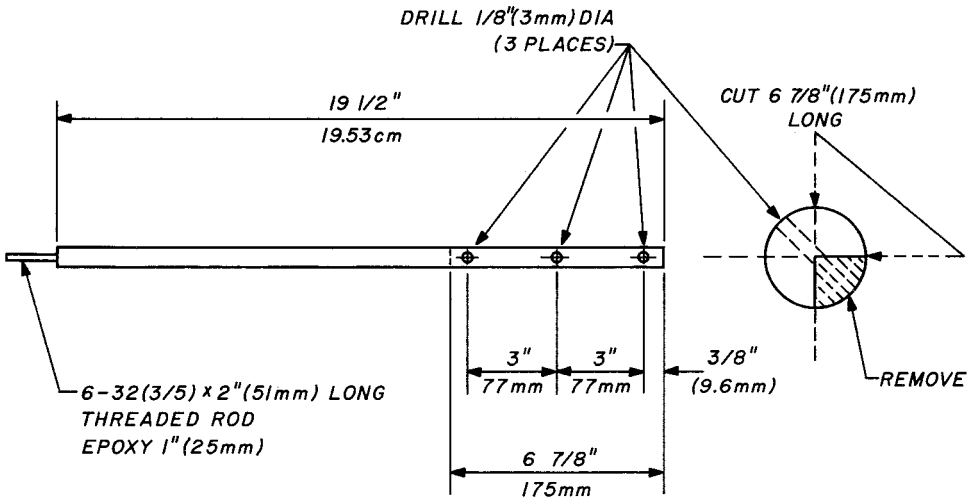

Figure 11-12.
time (with three coats of white *Hobbyoxy* on them) without significant warping or bending. I recommend the $\frac{1}{2}$ -inch (12.5-mm) diameter dowels for standoff supports. Dimensions for the 13-inch (332-mm) long standoffs are given in *Figure 11-12*.
1. Use a coping or jig saw to quarter the first $6\frac{1}{8}$ inches (175 mm) of each standoff dowel as shown in **B** of *Figure 11-12*. Remove one of the quarters with an *Exacto* knife or thin-blade pocket knife.